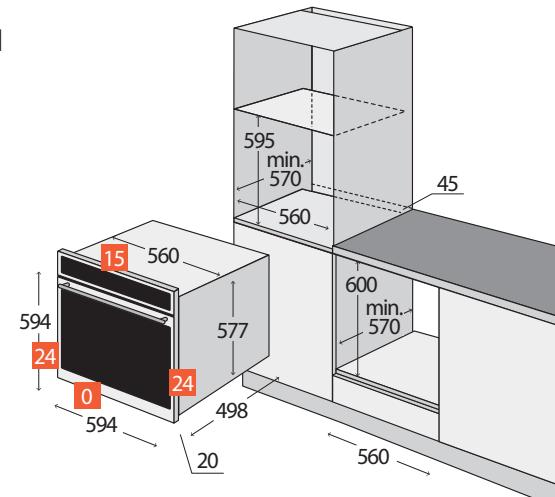

Fig. 1
- The appliance may be located either under a kitchen cabinet or in a stand-alone cabinet (Fig. 1).
2. For the sake of efficient air circulation the unit has to be located according to the dimensions on Fig. 1 and the design of the cabinet must enable air flow into its bottom part. The gap behind the rear wall of the built-in appliance must be at least 50 mm.